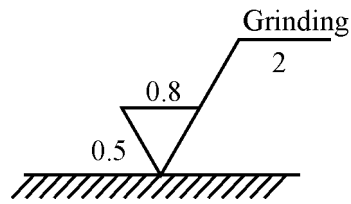

Fig. 1
- (f) State the meaning of the symbol shown in Fig. 1.